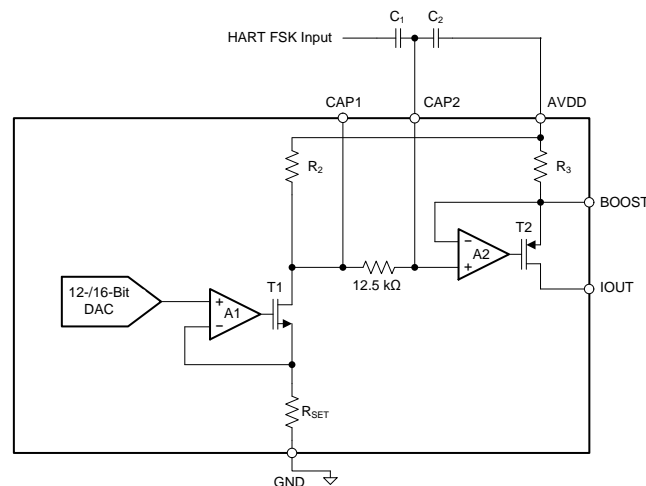

Figure 93. Implementing HART on IOOUT Using the CAP2 Pin
The first method of implementing HART is to couple the signal through the CAP2 pin, as conceptualized in Figure 93. Note that this pin is only available in the 40-pin VQFN package.
In Figure 93, R_3 is nominally $40\ \Omega$, and R_2 is dependent on the current output range (set by the RANGE bits) as described below:
1. As is seen in Figure 93, CAP2 is directly connected to the input of the final IOUT amplifier. Any noise or unwanted ac signal routed near the CAP1 and/or CAP2 pins could capacitively couple onto internal nodes and affect IOUT. Therefore, with the QFN package, it is important to avoid routing any digital or HART signal trace over the CAP1 and CAP2 traces.